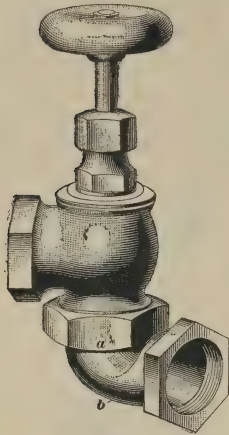

FIG. 78
**125.** The **Universal radiator valve** is a valve that has lately been placed on the market; it is the ordinary type of radiator valve of the angle pattern fitted with a ground joint union *a*, Fig. 78, on the bottom and connected to a sleeve *b*, which allows adjustment to any angle in a horizontal plane. The sleeve is made with a female thread at